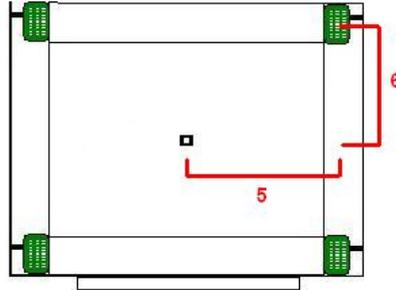

Figure 2-4: Marker_Phys_coords 5,6
Measure the distance from the calibration dot, to the reference line in the middle of the IR markers(5). Also, record half the distance between the IR markers(6) This is illustrated in Figure 2-4.